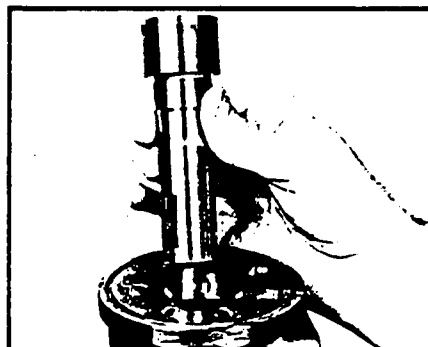
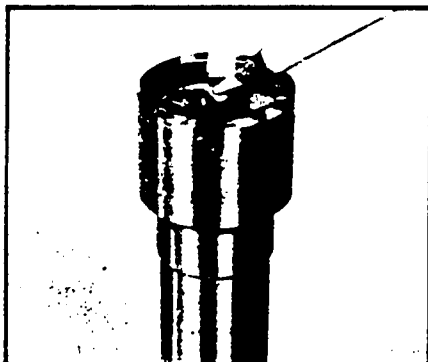

Figure 18
Figure 19
15. Remove coupling shaft (11), by pushing on the output end of shaft. Inspect coupling shaft bearing and seal surfaces for spalling, nicks, grooves, severe wear or corrosion and discoloration. SEE FIGURE 18. Inspect for damaged or worn internal and external splines, drive pin slot, and keyway. SEE FIGURE 19. Replace coupling shaft if any of these conditions exist.